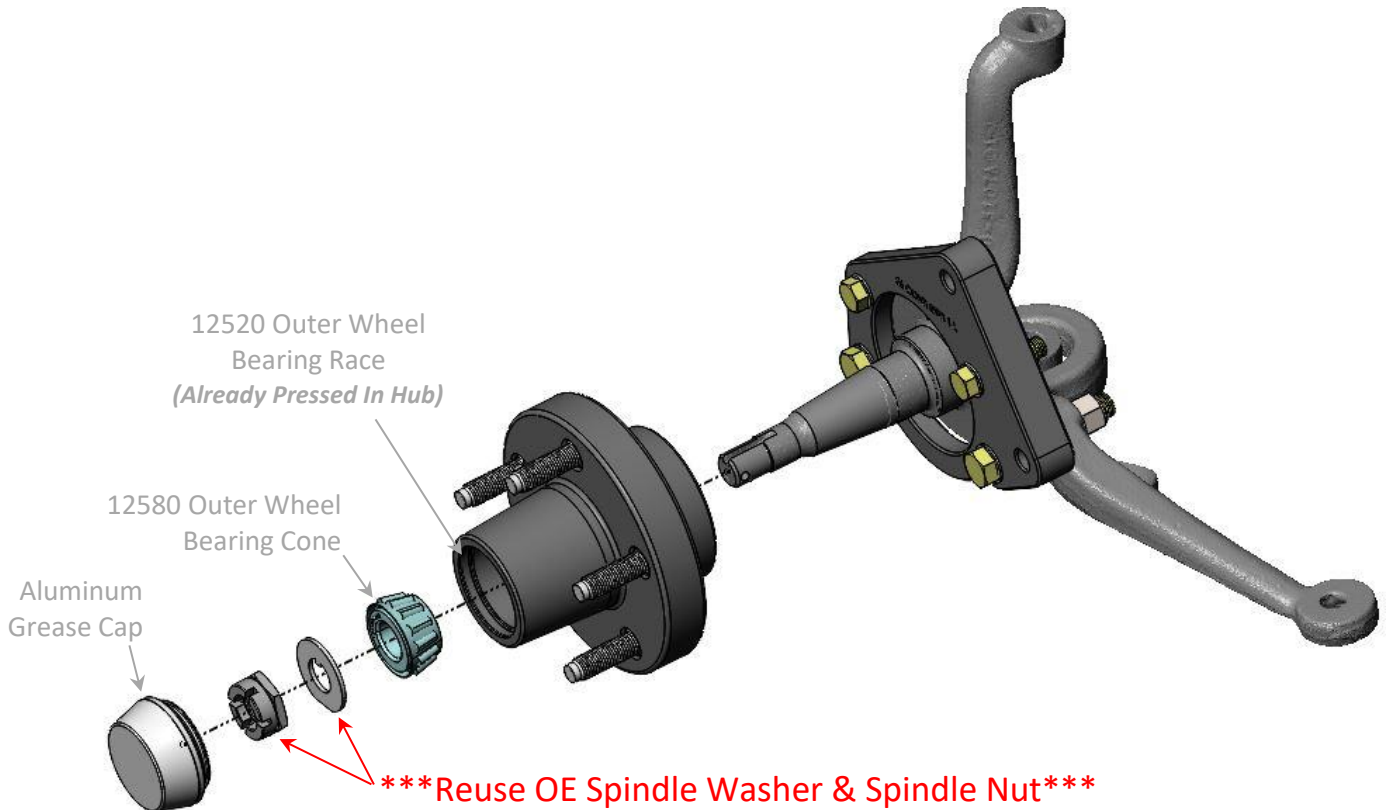

Figure 3 – Component Location (LH Side Shown)
- Slide the hub onto the spindle. The inner wheel bearing and grease seal should be installed at this point. With the hub fully pushed onto the spindle, install the outer wheel bearing followed by the keyed washer and re-use the original spindle nut. When tightening the spindle nut, tighten to 5-10 ft/lbs. Loosen the nut and tighten again using the same 5-10 ft/lbs. Do this a couple of times spinning the hub to fully seat the wheel bearings onto the spindle. Loosen the nut a final time and re-tighten to remove all play. Tighten approximately an additional 1/16th of a turn to give the appropriate pre-load and line up the cotter pin hole. Install the cotter pin to secure the nut followed by the grease cap. Figure 3 shows the proper location of each component.